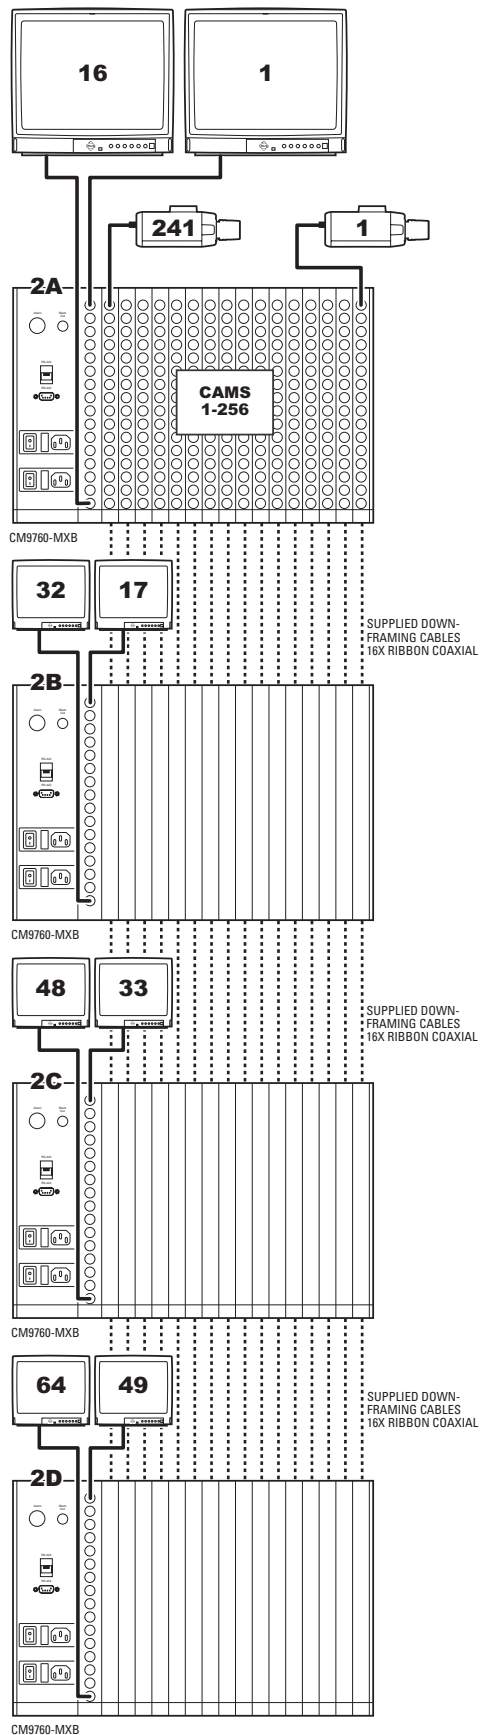

Figure 66. Downframing: 256 x 64 Configuration
- 256 x 64 (refer to Figure 66)